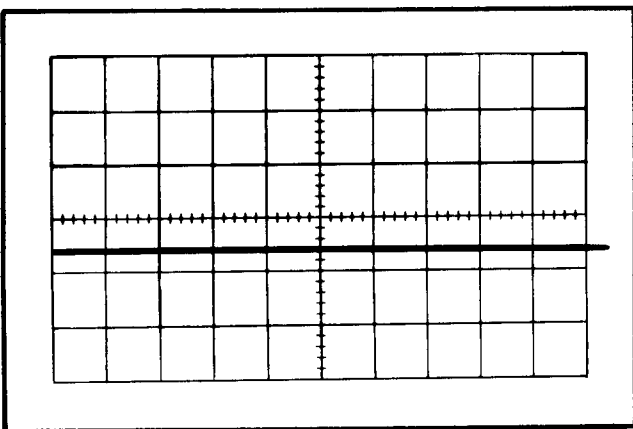

Fig. 5-11. Typical CRT display when checking attenuator isolation ratio and amplifier crosstalk ratio.
- e. CHECK—CRT display for 0.1-division deflection, or less (attenuator isolation ratio 10,000:1 or better; see Fig. 5-11).
- j. CHECK—CRT display for 0.1-division deflection or less (attenuator isolation ratio 10,000:1 or better; see Fig. 5-11).